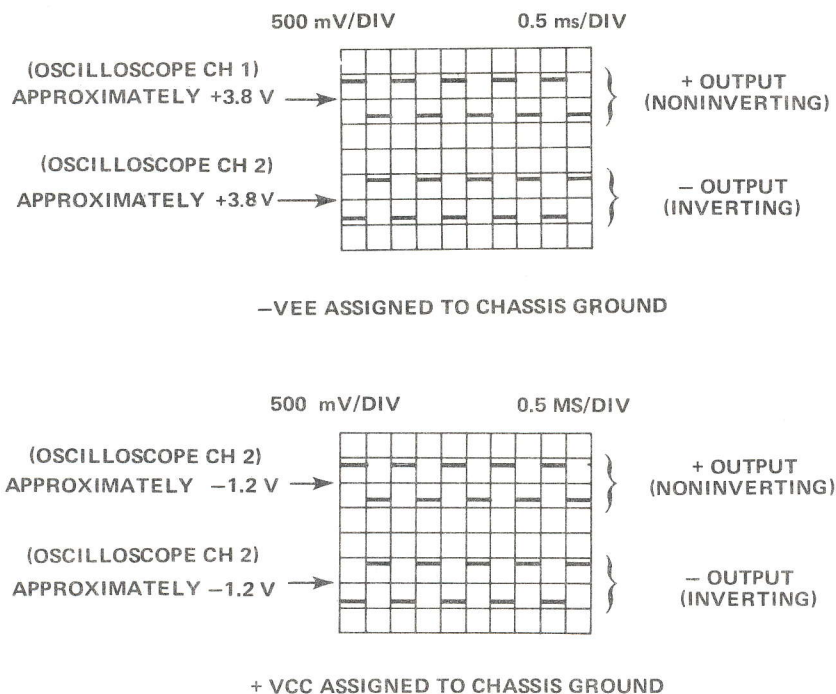

Figure 2. Typical channel output waveforms vs. supply voltage assigned.
c. With a test oscilloscope, check the + output (noninverting) and - output (inverting) for the correct output waveform. See Figure 2 for typical waveforms.